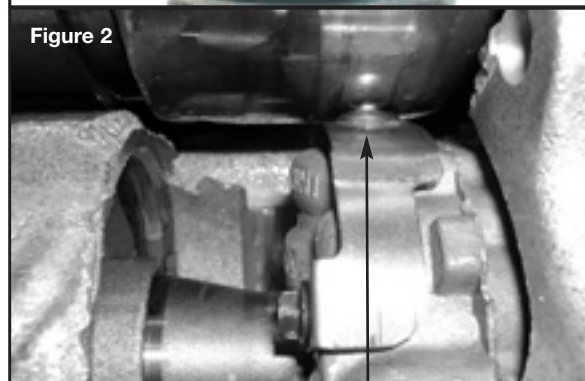

Figure 2
3. Inspect the run-out of the sunshell. Run-out on the outer diameter should not exceed .020". If run-out is excessive then the governor bracket may contact the sunshell. After installation, be sure to rotate the differential to ensure bracket does not touch the sunshell or case (see Figure 2).
Caution: Do not use sunshells with extreme wear. Run-out at the outer diameter exceeding .020" may cause the governor bracket to contact the shell. Rotate differential to ensure bracket does not touch sunshell or case (see Figure 2).